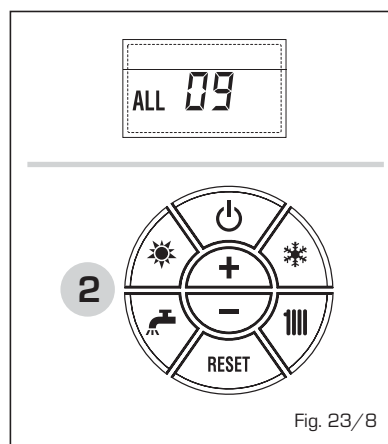

Fig. 23/8
- **ANOMALÍA SONDA AUXILIAR "AL 10" (fig. 23/9)**